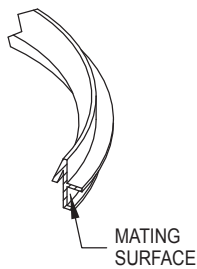

Figure 2.1
- 2.1) Apply sealant around mating surface of pipe seal as shown in Figure 2.1. Repeat for each required pipe seal.